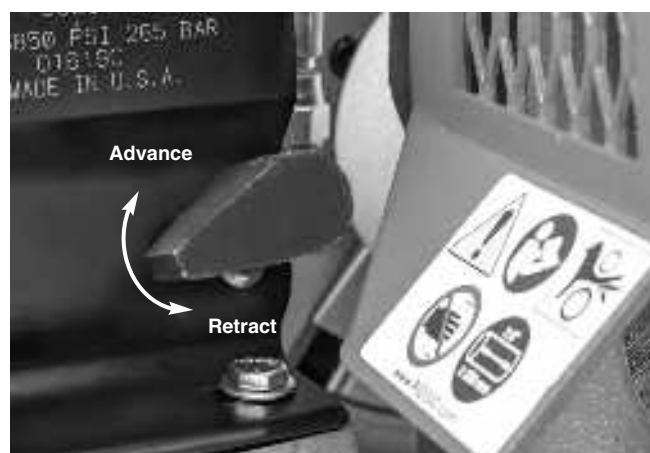

Figure 11 – Pump Release Lever Position
- To retract the groove roll, move the pump lever to the retract position. See *Figure 11*.